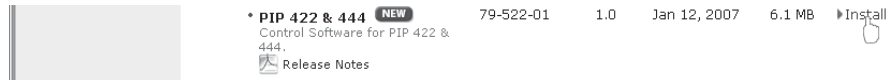

Figure 4-3 — Software installation
3. Scroll to the desired program and click Install (figure 4-3).